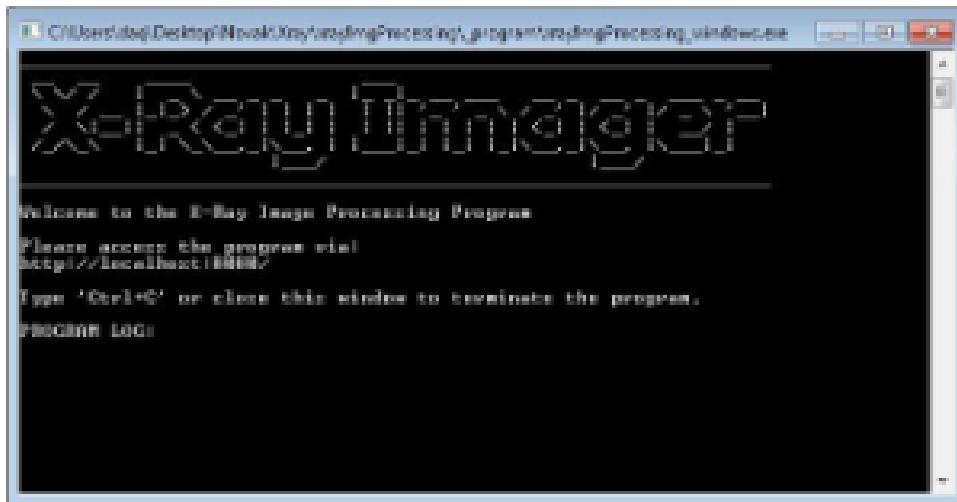

Figure 44- IODP processing X-ray Imager software command window
- a. This will trigger a command window to open (**Figure 44**). This command window will display the program status as images are processed. Refer to this screen to review what the processing software is doing or to check for any errors.